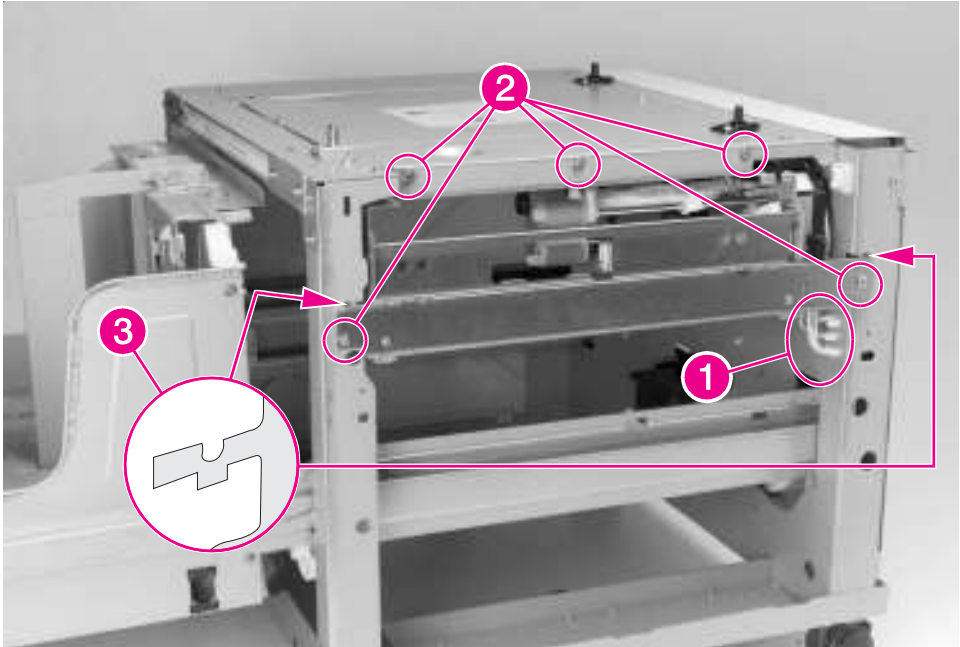

Figure 6-71 2000-sheet Input Tray Pickup Assembly
- 4 Disconnect the 3 cables that are located at the bottom-right side of the Pickup Assembly (figure 6-71, callout 1).